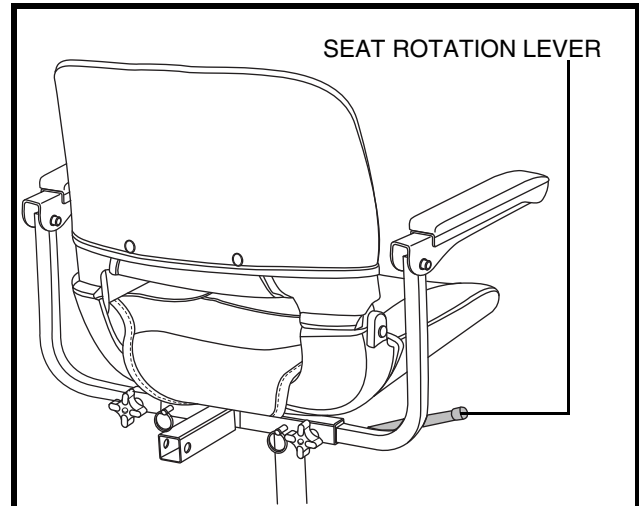

Figure 16. Seat Position Adjustments
1. Push forward on the seat rotation lever to disengage the seat. See **figure 16 or 18**.